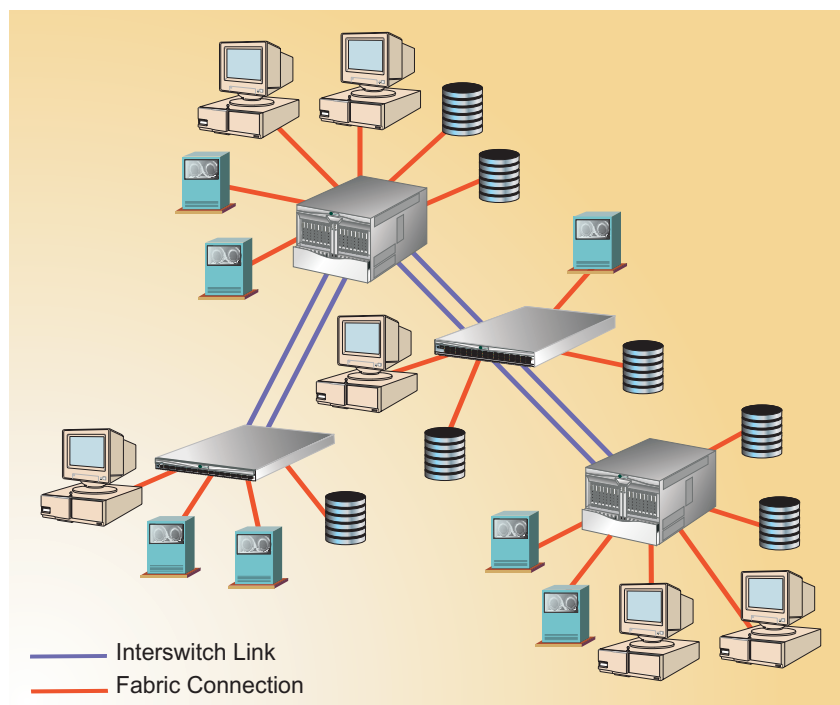

Figure 36: Cascaded fabric
A cascaded fabric consists of a linear string of directors or switches connected by one or more ISLs. Each fabric element is connected to the next fabric element in line. The end-point fabric elements are not connected to each other. Figure 36 illustrates a cascaded fabric topology.
- **Nonresilient single fabric** — Directors and switches are connected to form a single fabric that contains at least one single point of failure (fabric element or ISL). Such a failure causes the fabric to fail and segment into two or more smaller fabrics. A cascaded fabric topology (Figure 36) illustrates this design.